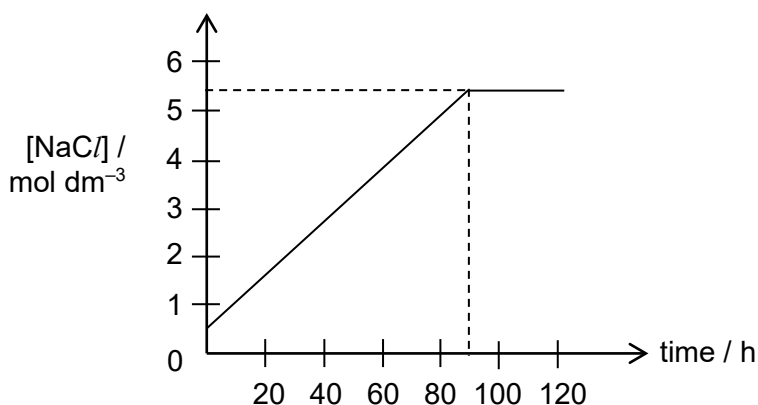

Fig. 4.1
Fig. 4.1 shows how the concentration of dissolved NaCl changes in that time.
- (i) Describe the trend observed in Fig. 4.1 when the sample of seawater was electrolysed from 0 to 90 h.